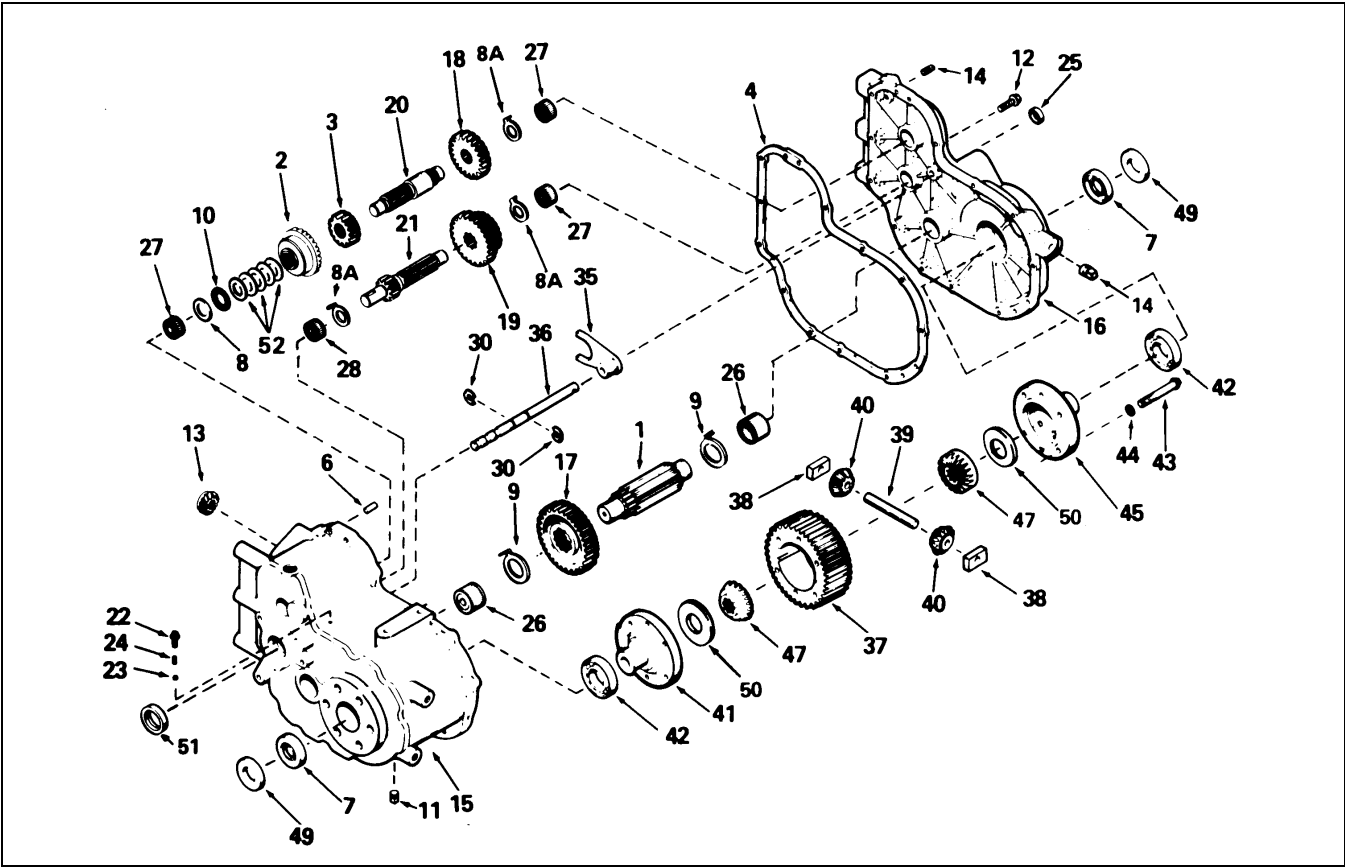

Figure 20
2. Put the transaxle on a work bench with cover side up. Remove screws. Lift cover (Fig. 20, Item 16) off and discard gasket (Item 4).